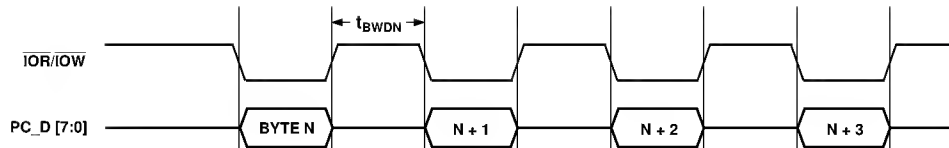

Figure 15. Codec Transfers
After setting format bits, sample data into the AD1815 must be ordered according to Figure 15, Table VI.
- CFMT [1:0]** (RW) Capture Format. Use these bits to select the format for capture data according to the following Table VI and Figure 15.